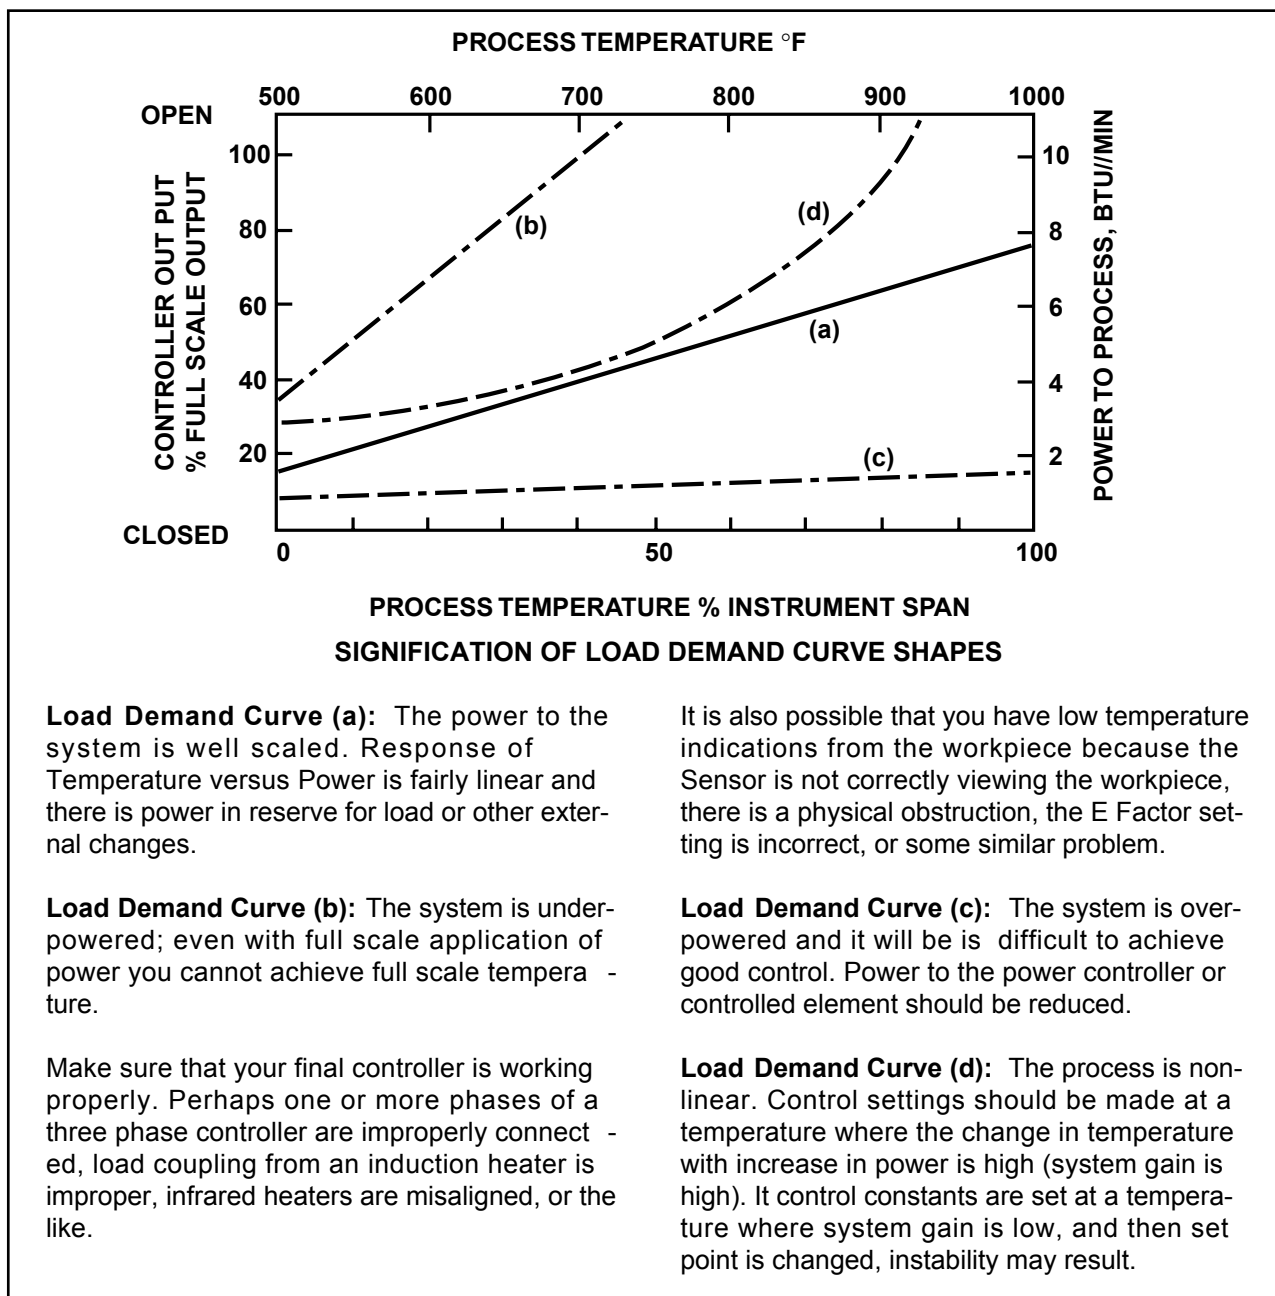

FIG. 4P.3 - PROCESS LOAD DEMAND CHARACTERISTICS
You will observe and remark on the relationship between MODLINE 3 PID Controller output and the attained process temperature. From this data you will plot a curve that you will compare to the sample curves that are given in Fig. 4P.3 and determine how well your power output matches your process requirements.
6. Plot % value of “PID Out :” vs Process Temperature. This represents the Load Demand curve of your process. Sample Load Demand curves are shown in Fig. 4P.3.